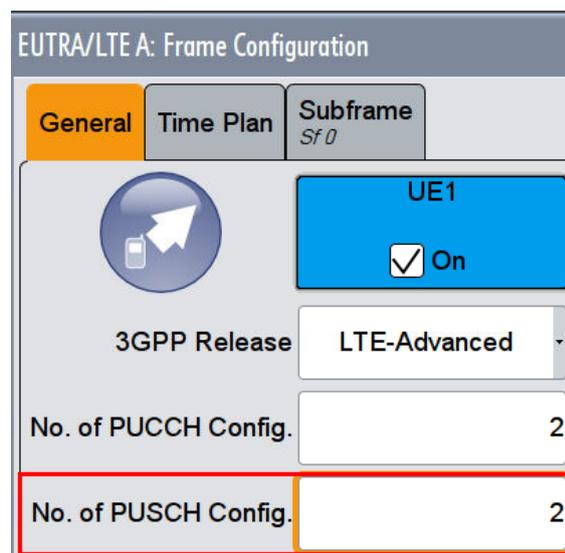

Fig. 3-64: Set two configurable PUSCH subframes
4. Set **No of PUSCH Config** to 2 (Fig. 3-64), because the ACK is multiplexed on the PUSCH in every second subframe only. With this setting, two subframes have to be configured. The configuration is automatically copied to all other subframes.